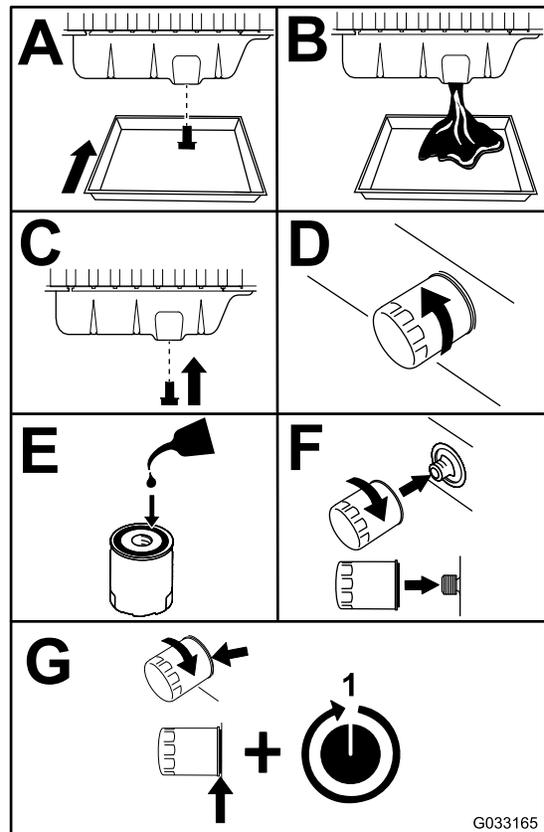

Figure 73
3. Replace the engine oil and filter (Figure 73).